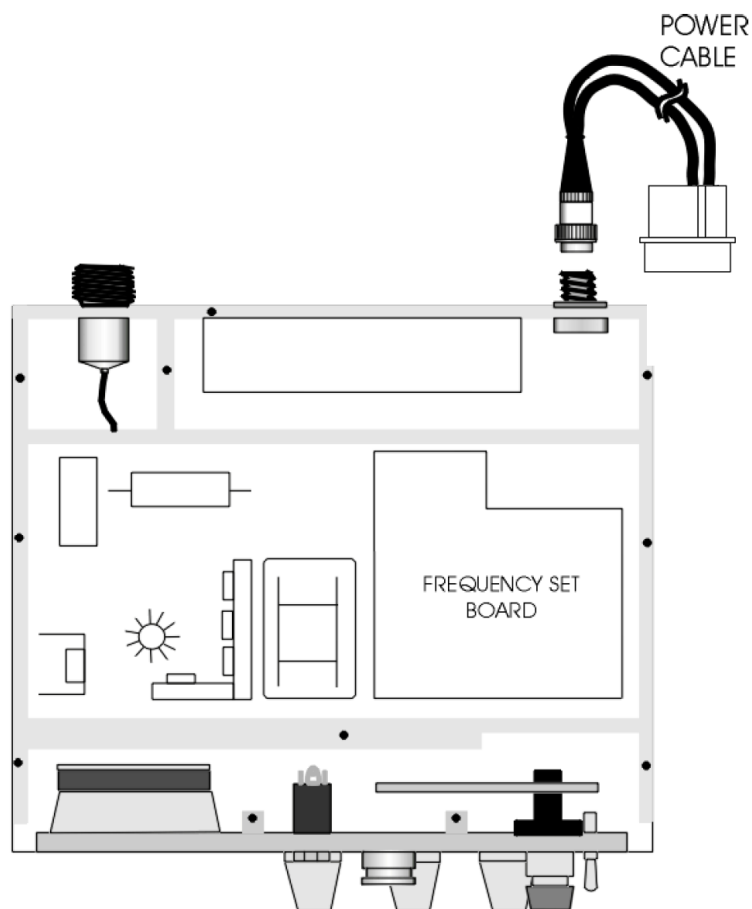

Figure 1. Model 1792 Internal View
2. Lift the cover clear of the chassis to expose the internal view of the radio as shown in Figure 1.